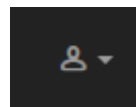

Figure 9. Partner Portal (Profile icon)
3. Hover the mouse cursor over the Profile icon in the upper right-hand corner of the web page (Figure 9 \(page 50\)). Click the **Account** option.